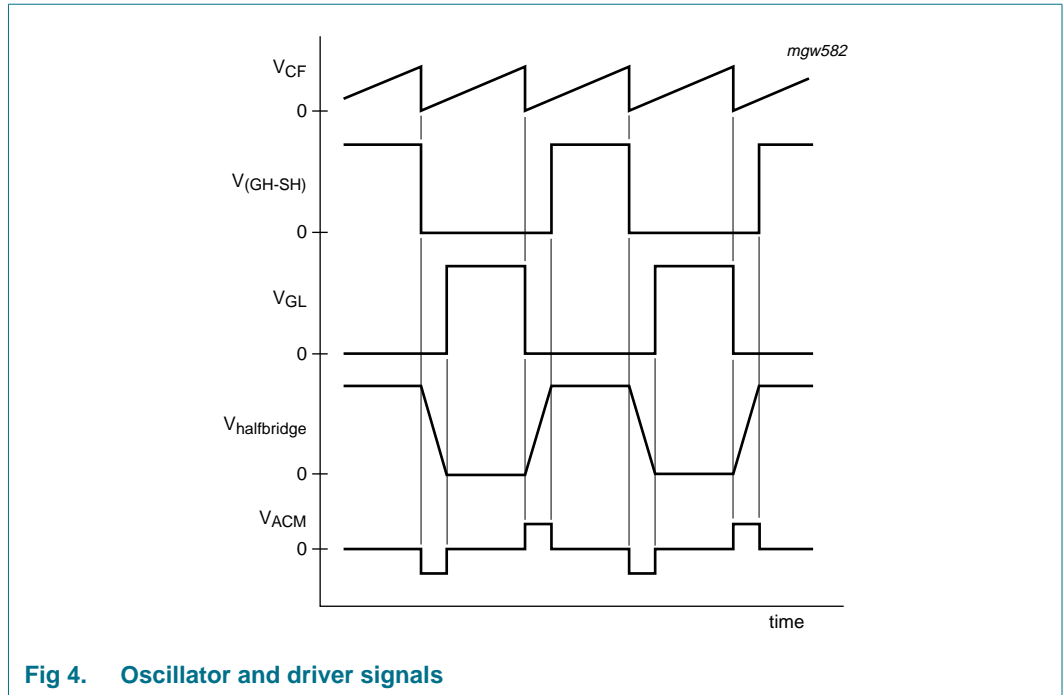

Fig 4. Oscillator and driver signals
The internal oscillator is a Voltage Controlled Oscillator (VCO) circuit which generates a sawtooth waveform between the  $V_{CF(high)}$  level and 0 V. The frequency of the sawtooth is determined by capacitor  $C_{CF}$ , resistor  $R_{IREF}$ , and the voltage at pin CSW. The minimum and maximum switching frequencies are determined by  $R_{IREF}$  and  $C_{CF}$ ; their ratio is internally fixed. The sawtooth frequency is twice the half bridge frequency. The UBA2014 brings the transistors TR1 and TR2 into conduction alternately with a duty cycle of approximately 50 %. An overview of the oscillator signal and driver signals is illustrated in Figure 4. The oscillator starts oscillating at  $f_{max}$ . During the first switching cycle the Low-Side (LS) transistor is switched on. The first conducting time is made extra long to enable the bootstrap capacitor to charge.
The non-overlap time is realized with an Adaptive Non-overlap circuit (ANT). By using an adaptive non-overlap circuit, the application can determine the duration of the non-overlap time and make it optimum for each frequency; see Figure 4. The non-overlap time is determined by the slope of the half bridge voltage, and is detected by the signal across resistor R16 which is connected directly to pin ACM. The minimum non-overlap time is internally fixed. The maximum non-overlap time is internally fixed at approximately 25 % of the bridge period time. An internal filter of 30 ns is included at the ACM pin to increase the noise immunity.